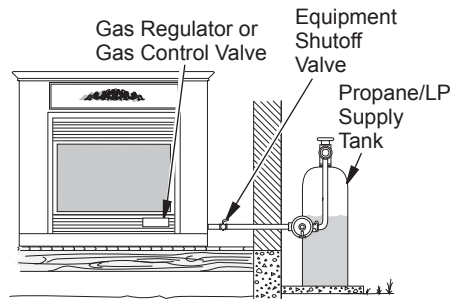

Figure 24 - Checking Gas Joints (Propane/LP Only)
3. Check all joints from gas meter to equipment shutoff valve for natural gas or propane/LP supply to equipment shutoff valve for propane/LP (see Figures 24 or 25). Apply noncorrosive leak detection fluid to all joints. Bubbles forming show a leak.
4. Check all joints from equipment shutoff valve to gas regulator (Thermostat-Controlled Models) or to gas control valve (Remote-Ready Models) (see Figures 24 or 25). Apply noncorrosive leak detection fluid to all joints. Bubbles forming show a leak.